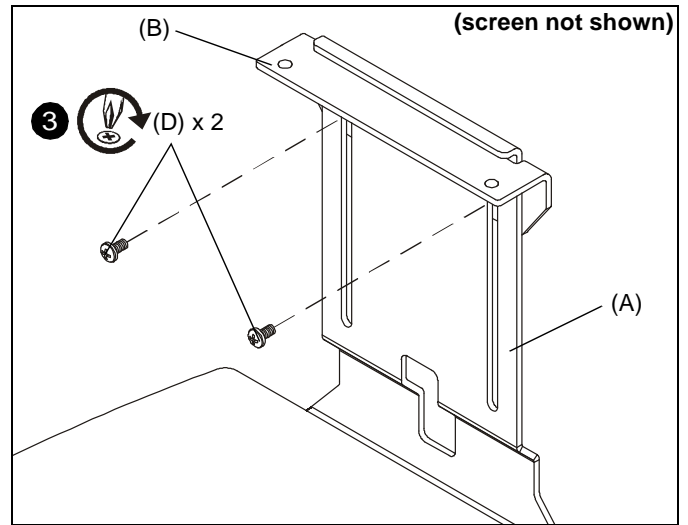

Figure 3
3. Fasten the shelf assembly (A) to the attach bracket (B) using two 10-24 x 3/8" Phillips head screws (D) through the shelf assembly slots and into the attach bracket fastener holes. (See Figure 3)